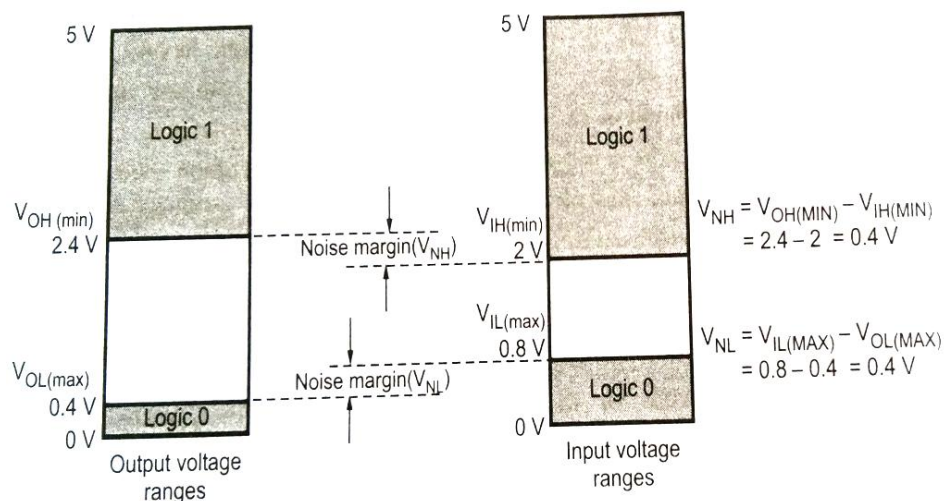

Figure 1.20: TTL logic levels and noise margin
- In either case, the difference is 0.4 V. This difference is called noise margin. For TTL, low state noise margin, V_{NL} and high state noise margin, V_{NH} both are equal and 0.4 V. This is illustrated in figure 1.20.